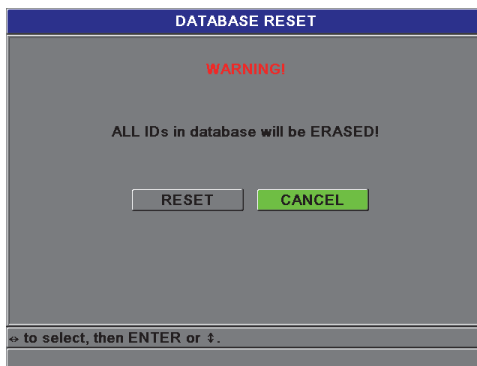

Figure 7-13 DATABASE RESET — Warning message
2. In the **RESET** submenu, select **DATABASE** to display the **DATABASE RESET** warning message (see Figure 7-13 on page 128).